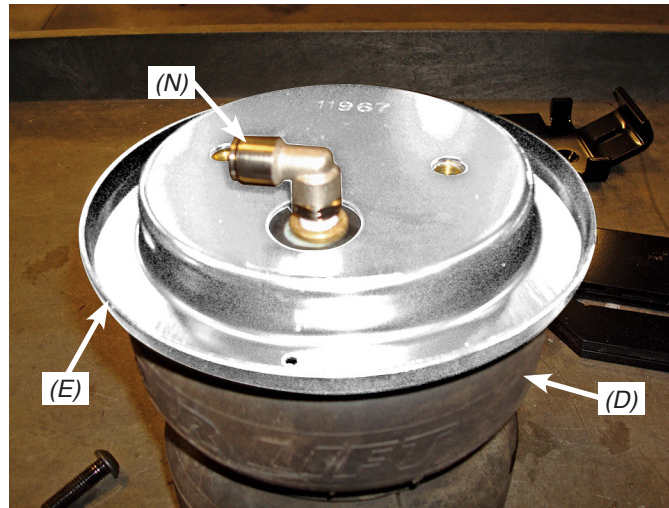

fig. 7
1. Set a roll plate (E) over the top of each air spring (D).
*The radiused (rounded) edge of the roll plate (E) will be towards the bellows so that the bellows is seated inside both roll plates.*
2. Install the Swivel Fitting (N) into the top of the Air Spring finger tight plus one and a half turns (fig. 7).